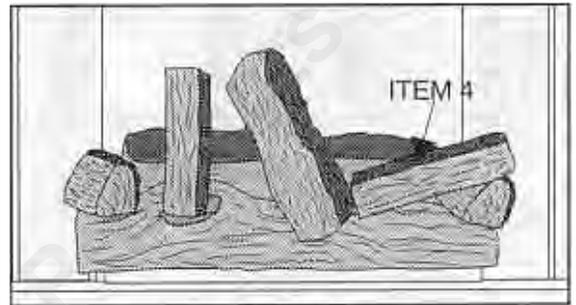

Figure 57
8. See Figure 57 The last small straight log (Item 4) is installed next. Position this log with the "bark" towards the back of the firebox. The left end of the log is placed in the remaining indentation of the Front Log and the right end of the log rests on top of the small straight log place previously.